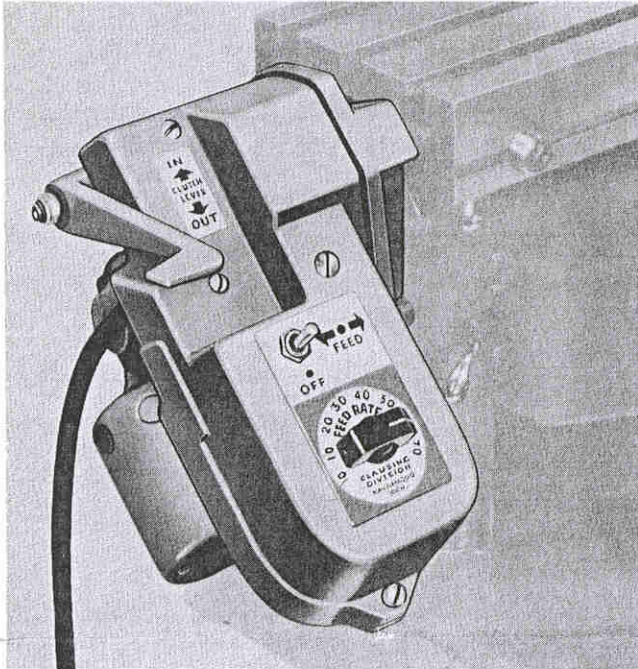

Figure 1
6. Make sure the power unit is below the level of table — refer to figure 1.